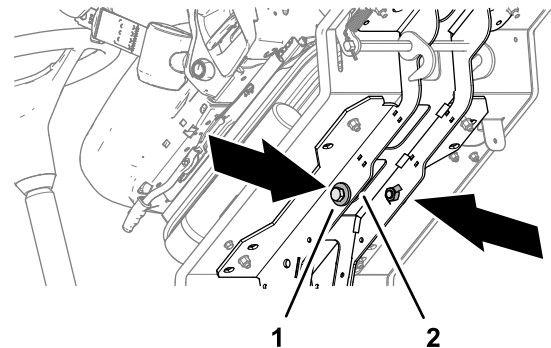

Figure 33
4. Remove the 2 bolts 12 x 40 mm and 2 washers 12 mm stored in the platform support rails (Figure 33).